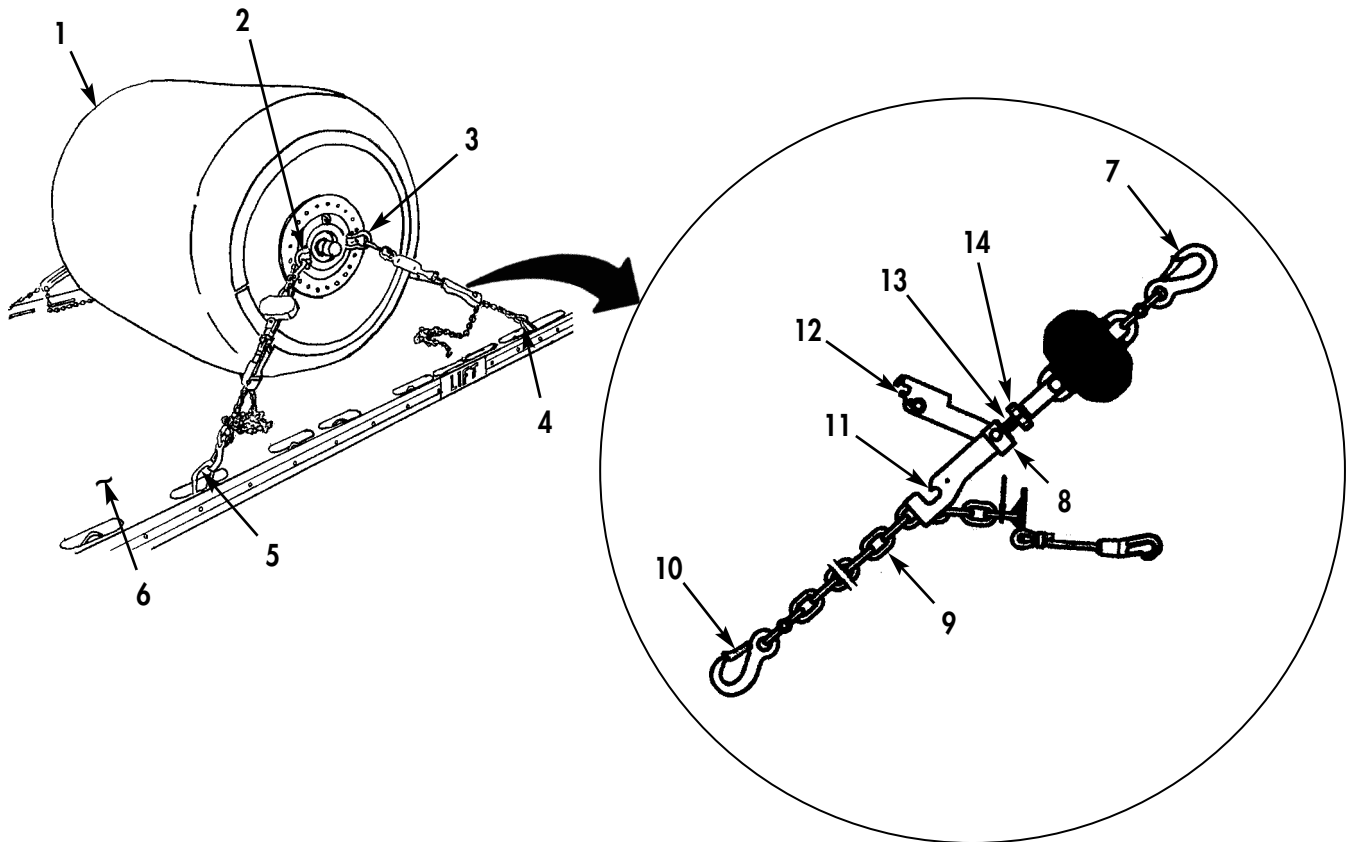

Figure 14. Tiedown Chains Installation.
- h. Adjust length of twelve chain tiedown assemblies by rotating adjustment wheel (Figure 14, Item 14) of tensioner (Figure 14, Item 8) out to mid-point of threaded shaft (Figure 14, Item 13).
- i. Connect tensioner assembly hook (Figure 14, Item 7) to front bow shackle (Figure 14, Item 3) on front drum (Figure 14, Item 1), and connect chain assembly hook (Figure 14, Item 10) to #1 tiedown ring (Figure 14, Item 4) at both sides of CROP (Figure 14, Item 6).
- j. Open tensioner handle (Figure 14, Item 12), pass chain assembly (Figure 14, Item 9) through center of tensioner (Figure 14, Item 8) until third link from hook (Figure 14, Item 11) can be placed in slot on tensioner (Figure 14, Item 8) at both ends of front drum (Figure 14, Item 1).
- k. Lock tensioner (Figure 14, Item 8) at both sides of front drum (Figure 14, Item 1). Refer to WP 0004.
- l. With bow shackle (Figure 14, Item 2) approximately horizontal to platform, connect tensioner assembly hook (Figure 14, Item 7) to bow shackle (Figure 14, Item 2) on front drum (Figure 14, Item 1), and connect chain assembly hook (Figure 14, Item 10) to # 6 tiedown ring (Figure 14, Item 5) at both sides of CROP (Figure 14, Item 6).
- m. Open tensioner handle (Figure 14, Item 12), pass chain assembly (Figure 14, Item 9) through center of tensioner (Figure 14, Item 8) as far as possible, then place link in slot on tensioner (Figure 14, Item 8) at both sides of front drum (Figure 14, Item 1).
- n. Lock tensioner (Figure 14, Item 8) at both sides of front drum (Figure 14, Item 1). Refer to WP 0004.